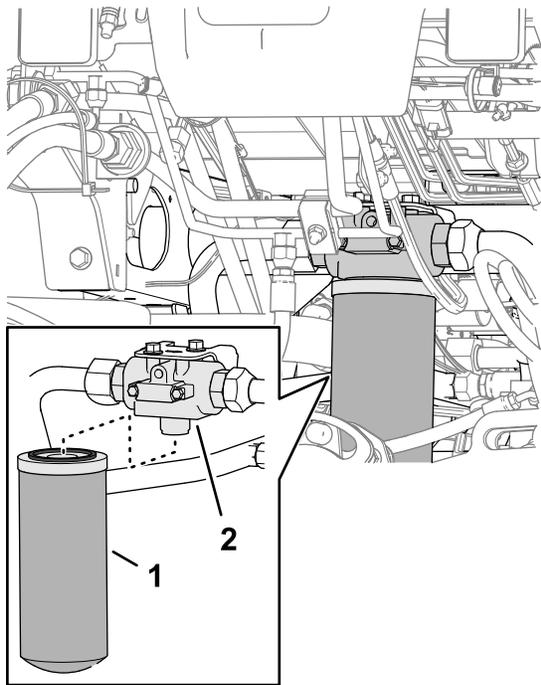

Figure 114
2. At the front of the machine, align a drain pan under the return filter (Figure 114).